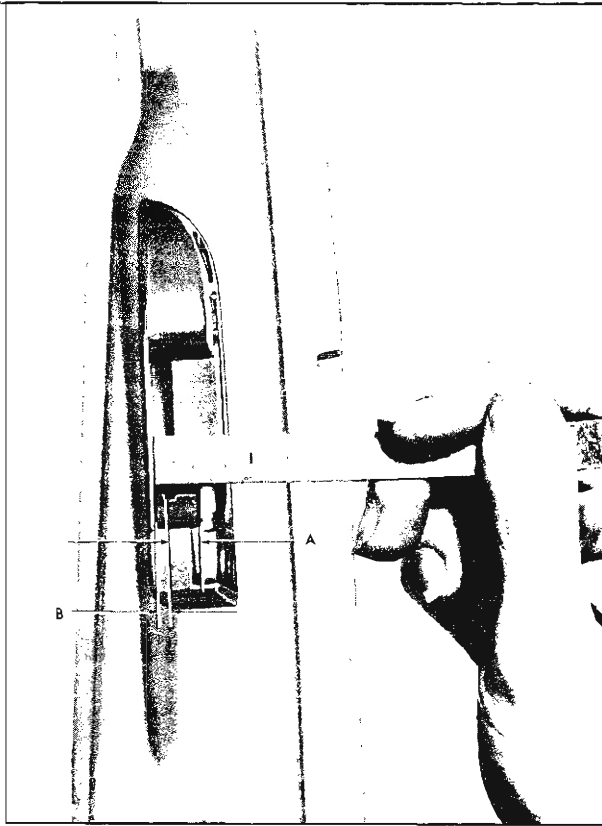

Fig. 12-5 Door Lock Striker Engagement Check
2. To determine if door lock striker emergency spacers are required, apply modeling clay or body caulking compound in door lock striker notch where lock extension engages, and then close door to form a measureable impression in clay or caulking compound as shown in fig. 12-5.
When dimension "A" (Fig. 12-5) from rear face of striker teeth to rear edge of depression in clay is less than  $1\frac{1}{32}$ ", install emergency spacers and proper length striker attaching screws as indicated.